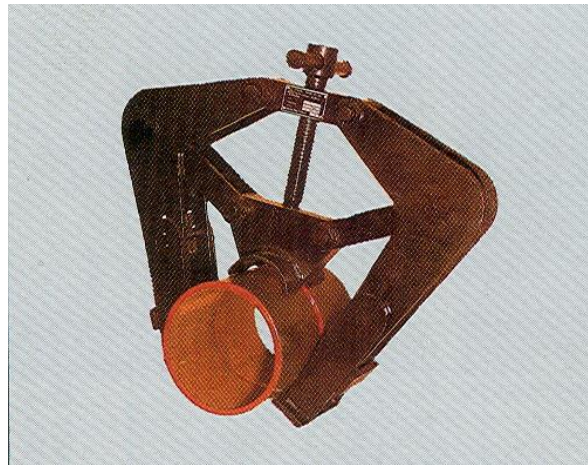

Figure 2. Mechanical Jig for clamping / centering two tubes
- a pair of tubes is hard to held, align and tack-weld; it is simply with outside mounting Jig, capable to align and adjust the distance (see Figure 2)